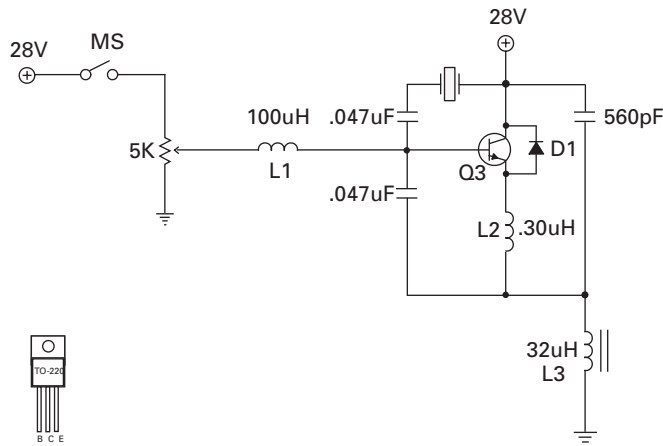

FIGURE 7-9 Simplified schematic of ultrasonic oscillator
Let's look at the ultrasonic oscillator in more detail, using Figure 7-9 as a guide. As discussed earlier, Q3, the BU406 transistor, is forward-biased when the magnetic switch (MS) is closed. The 5KΩ potentiometer establishes the amount of forward bias and therefore the output of the oscillator. The 100µH choke (L1) decouples the RF generated in the oscillator from the 28VDC supply line. At the operating frequency of about 1.2MHz, the choke would present the following impedance: